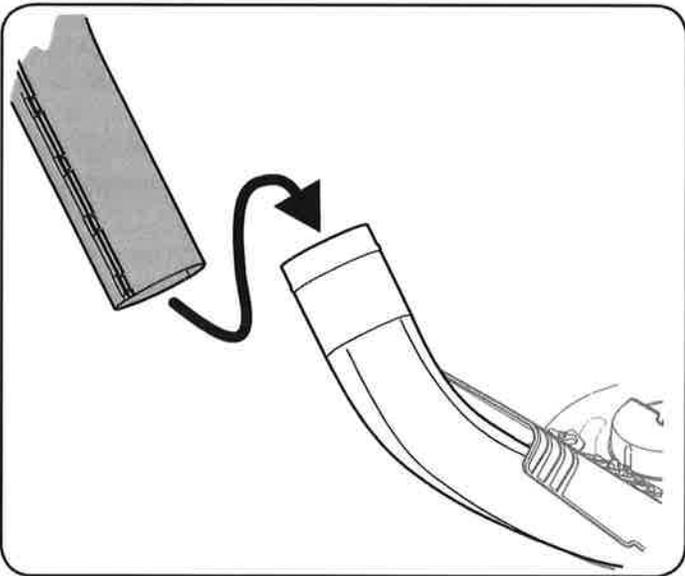

Figure 26
3. With the ability now to wiggle the discharge chute tube back and forth, slide it over the chute elbow mounted on the cutting deck, as shown in Figure 26.